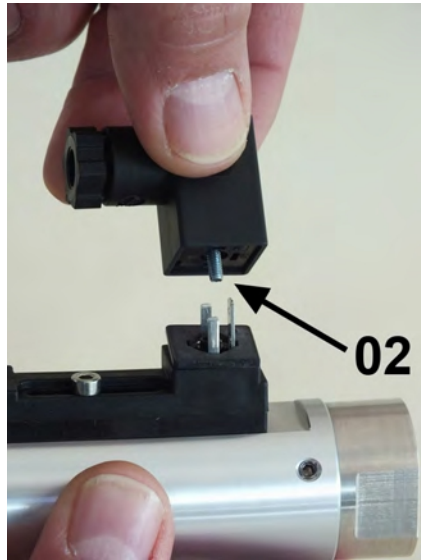

Fig. 21: Remove socket
2. ➤ Remove the socket (Fig. 21/02).